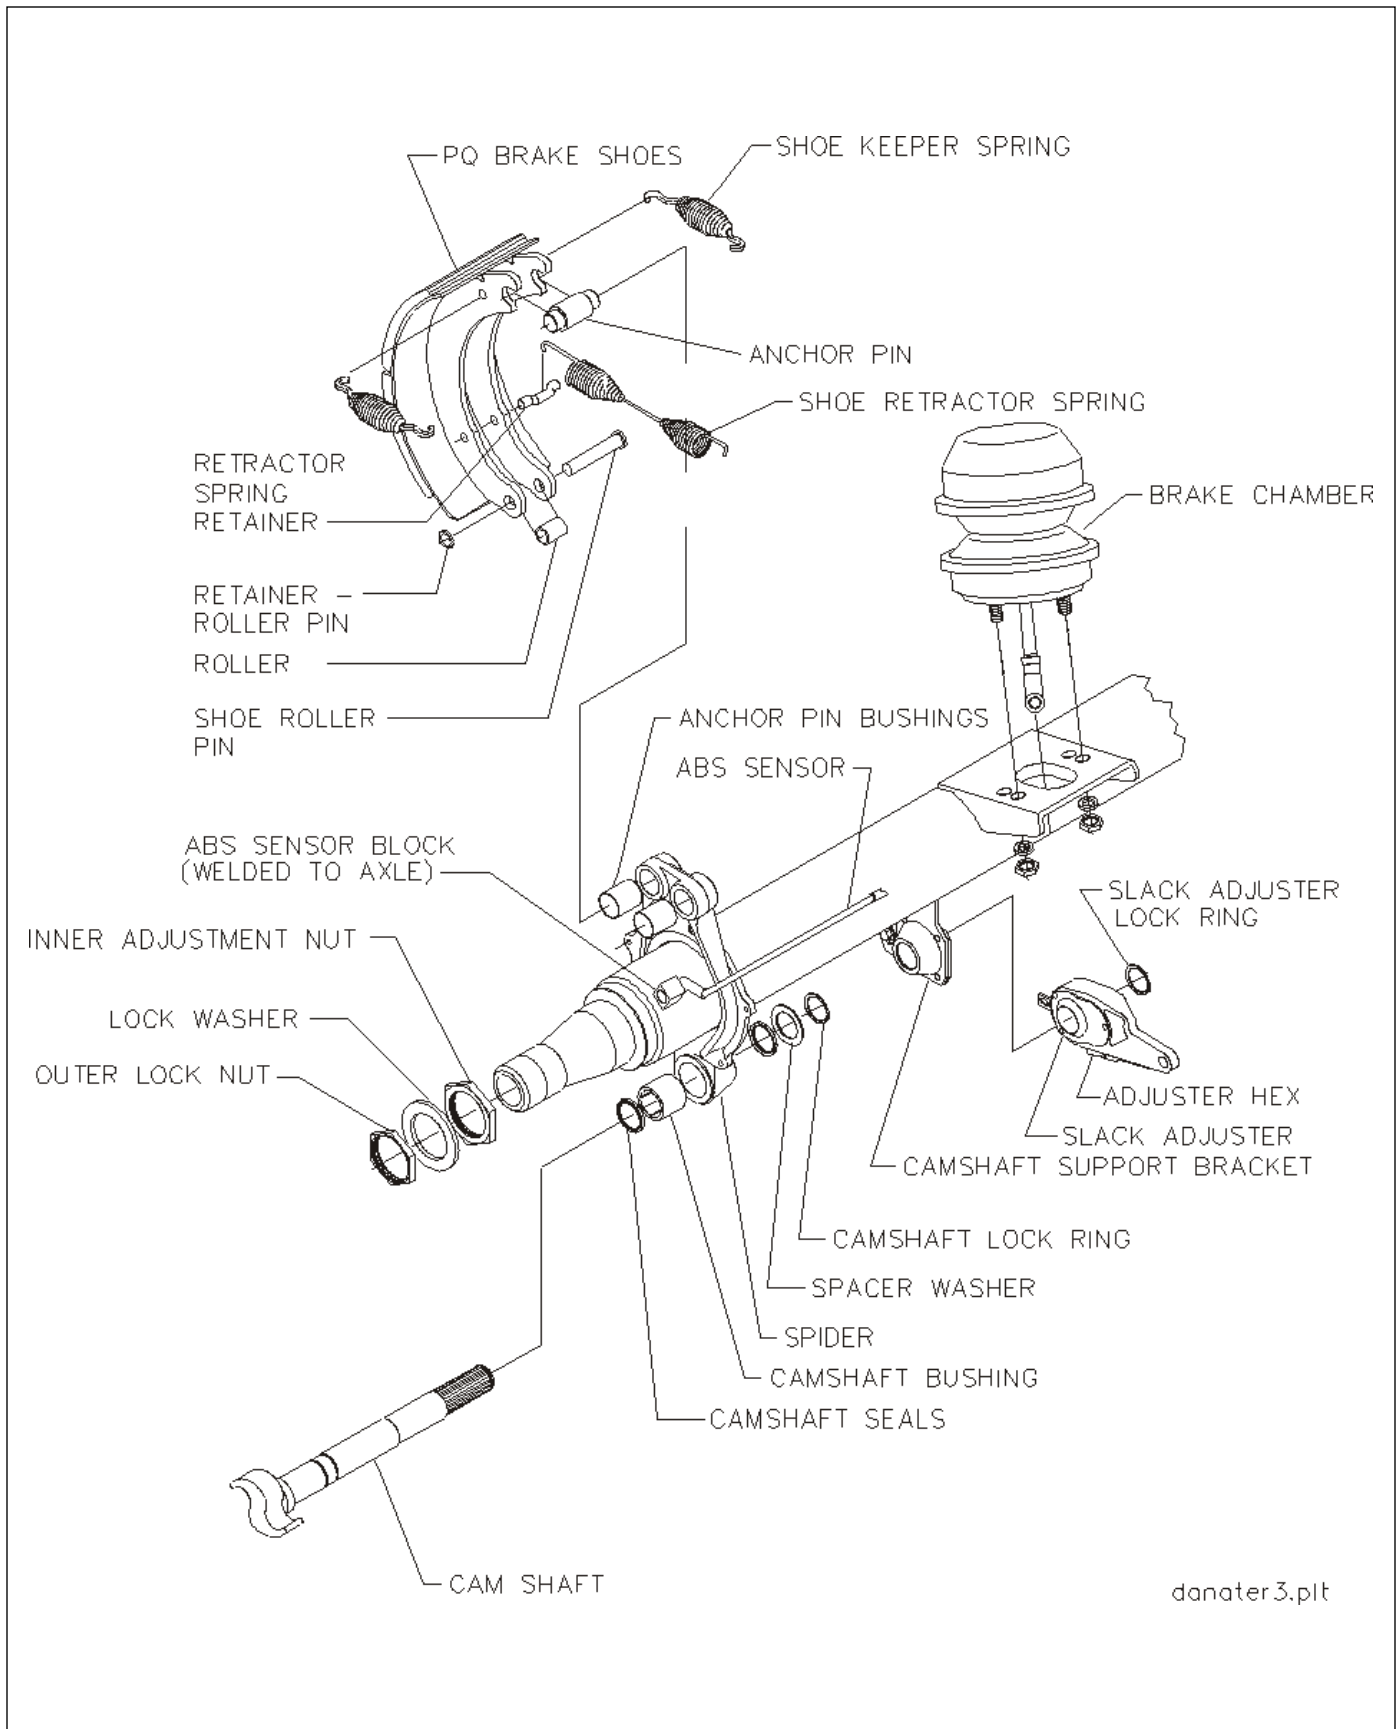

Figure 4-11: Axle and Brake Assembly
4. Disconnect the slack adjuster from the connecting rod by removing the clevis pin (See Figure 4-11.)
1. Release brakes and back off slack adjuster (See Figure 4-11.)